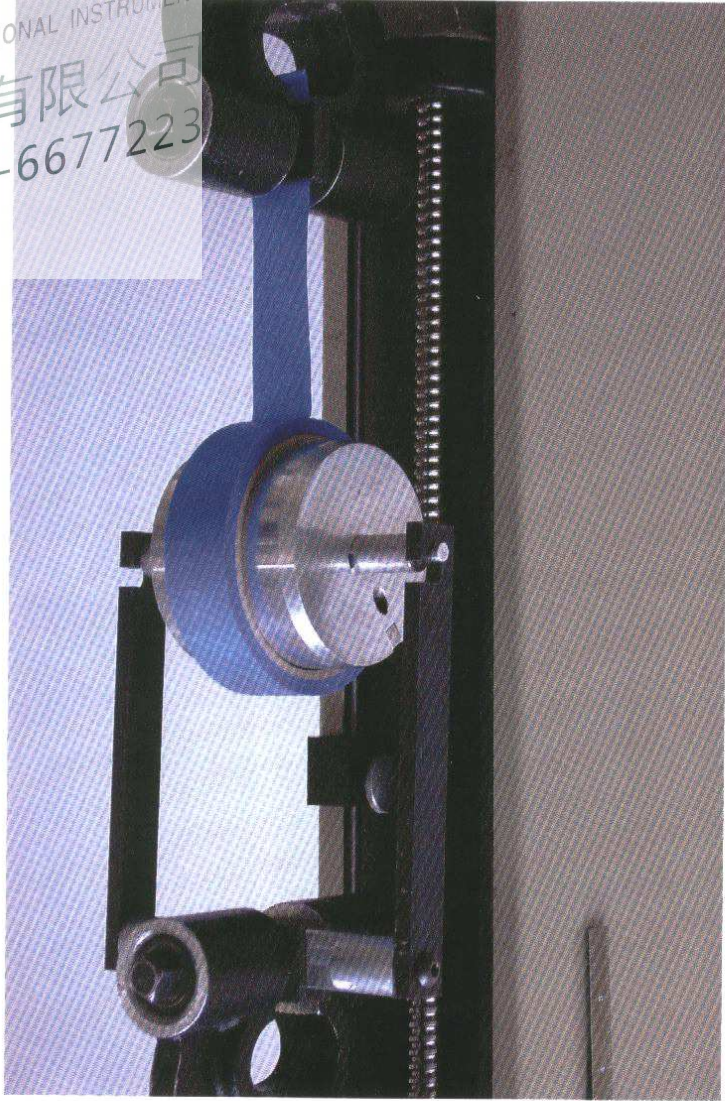

Figure 1: Setup of roll on mandrel.
5.1 Mount roll of tape in lower jaw of machine using free turning roller assembly. Place free end of tape in upper jaw (see Figure 1) and operate lower jaw at 300 mm/min (12"/min).